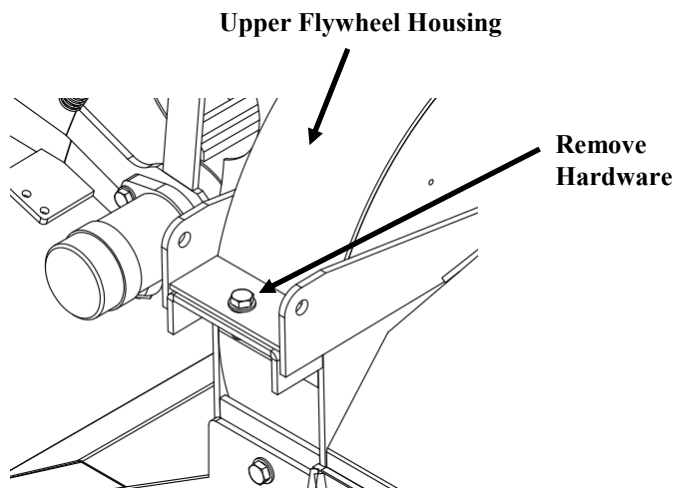

Fig. 1
- Open the upper flywheel housing by removing the hardware shown in the Fig. 1 below.